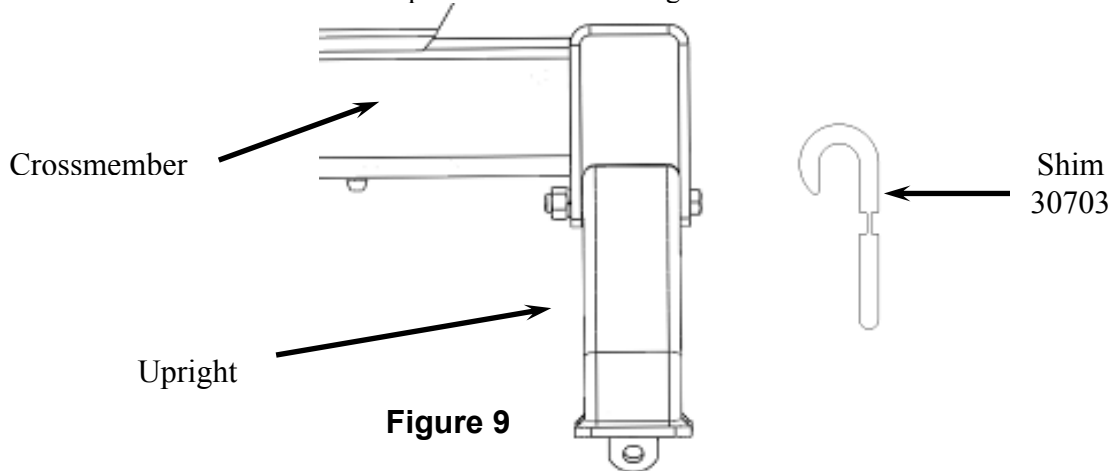

Figure 9
12. Check each rail hitch pin for freedom of movement in the bed rail connection before tightening the 5/8" carriage bolts. Adjust uprights, if necessary, by placing a washer between the upright and the cross member to obtain free pin movement. See Figure 9.